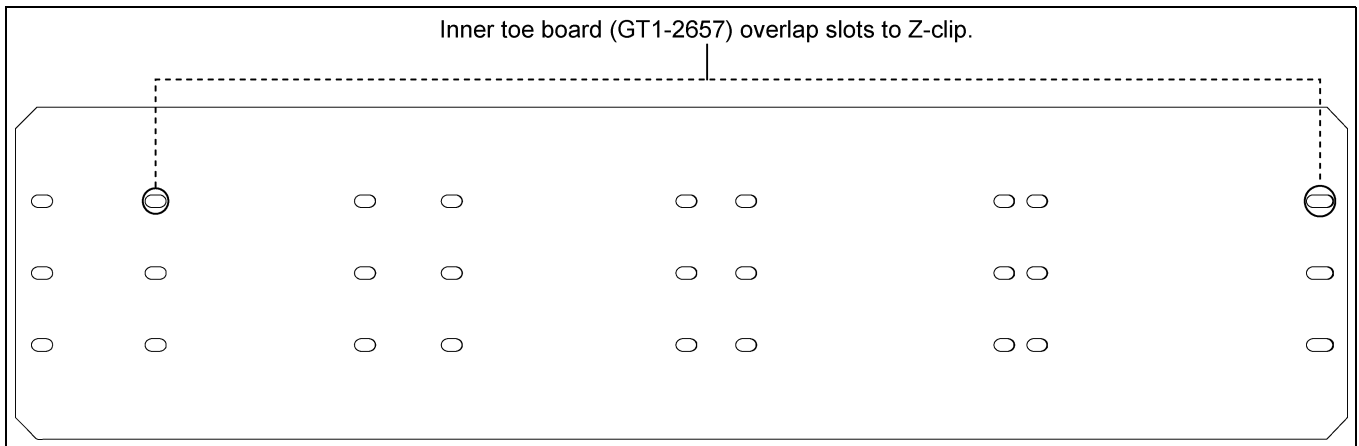

Figure 4I 17' Inner Toe Board (GT1-2657)
3. Inner toe board is arranged with overlap slots on each side. Install 17' inner toe boards (GT1-2657) to corresponding slots as shown in Figure 4I.